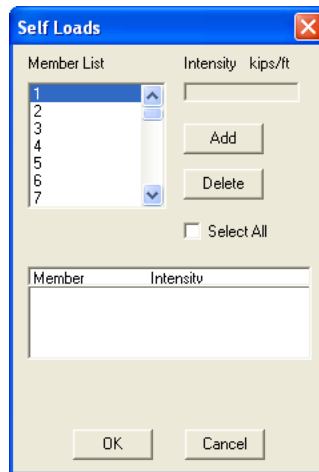

Figure 3-34 Self Loads dialog box
- From the **Assign** menu, choose **Self Loads**. The dialog box of Figure 3-34 appears